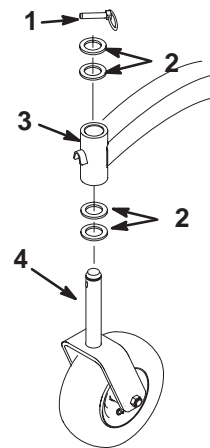

Figure 64
2. Remove the locking pin and spacer(s) from the top of the caster wheel fork (Fig. 64).
6. Inspect the caster wheel fork for wear and replace if necessary (Fig. 64).
7. Slide the caster wheel fork through the bushings in the mounting tube. Replace the spacer(s) onto the fork and secure with the retaining ring (Fig. 64).